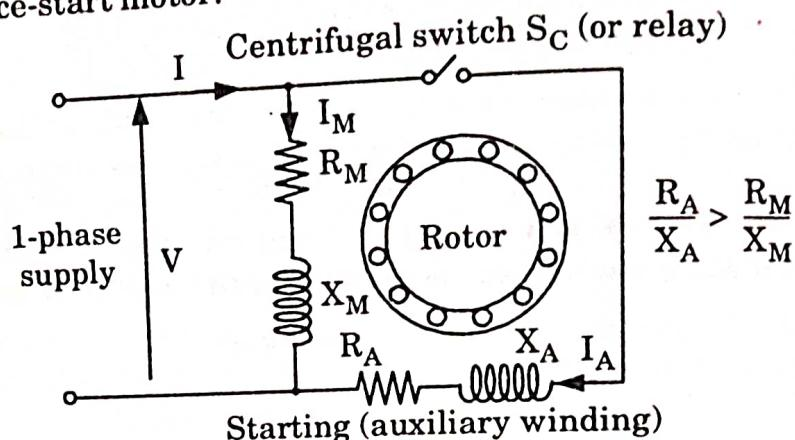

Fig. 5.12.1. Split-phase induction motor connections.
- Fig. 5.12.1 shows a split-phase induction motor. It is also called a resistance-start motor.